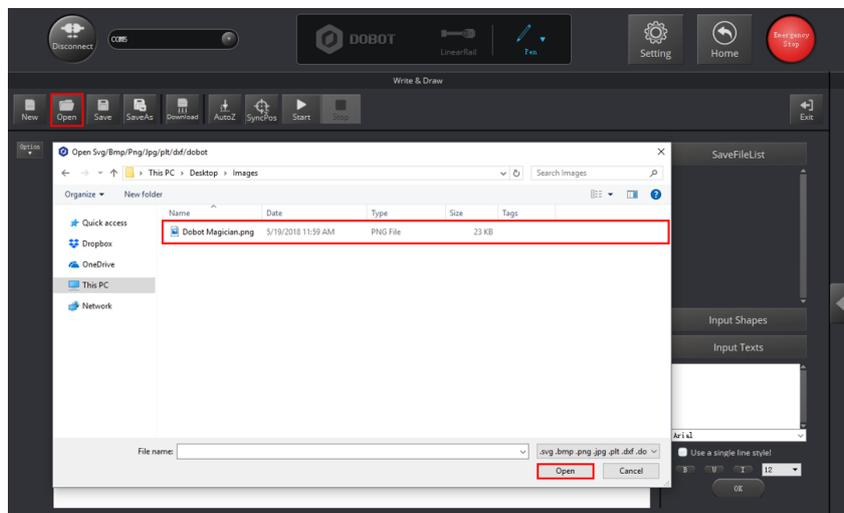
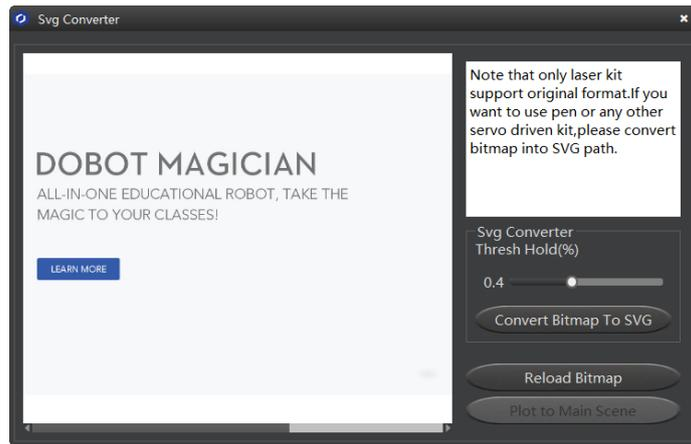

Figure 5.74 Import an image file
Figure 5.75 Convert Bitmap to SVG
- Click **Open** to import an image file such as BMP, JPEG, or PNG to convert this image to its corresponding SVG file that the DoBotStudio supports, as shown in Figure 5.74. Once this image is imported, the **SVG Converter** dialog box is displayed, as shown in Figure 5.75. In this dialog box, drag the slider to set the black and white threshold, and click **Convert Bitmap To SVG** to perform the conversion, and then click **Plot to Main Scene** to display the converted SVG file on the annular area of the **Write & Draw** page.